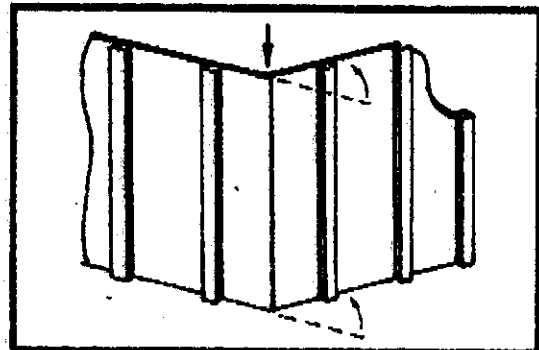

Fig. 2
- 4 Bend at this scribe line in opposite direction than material is rolled. (Figure 2)